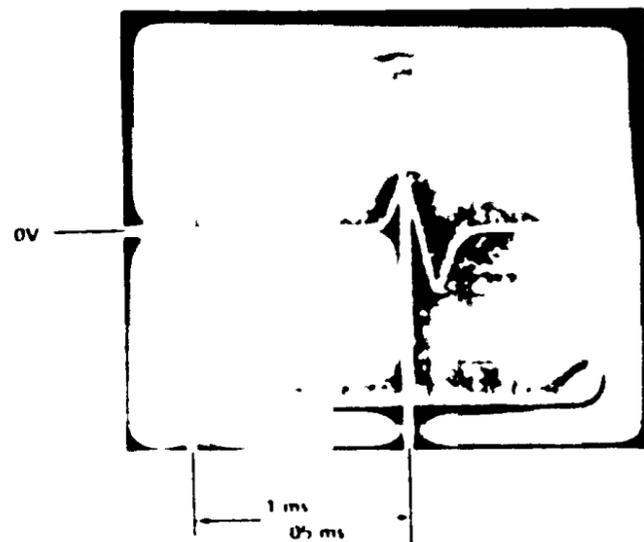

FIGURE 5-6. Speed Reference
4. Connect the oscilloscope probe to TP2 (AMP 2 OUT) of the M7761 module and adjust the oscilloscope controls to attempt to obtain the waveform indicated in Figure 5-6.